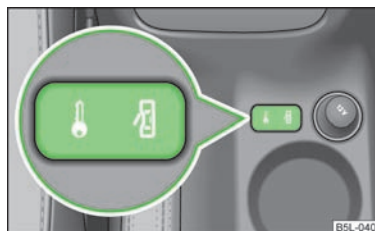

Fig. 12
If the vehicle was not locked from the outside, you can also unlock and lock it with the rocker switch » Fig. 12 without the ignition switched on.
- Press the button in the area **1** » Fig. 12. The symbol **1** in the button comes on.
- Press the button in the area **2** » Fig. 12. The symbol **1** in the button is no longer illuminated.